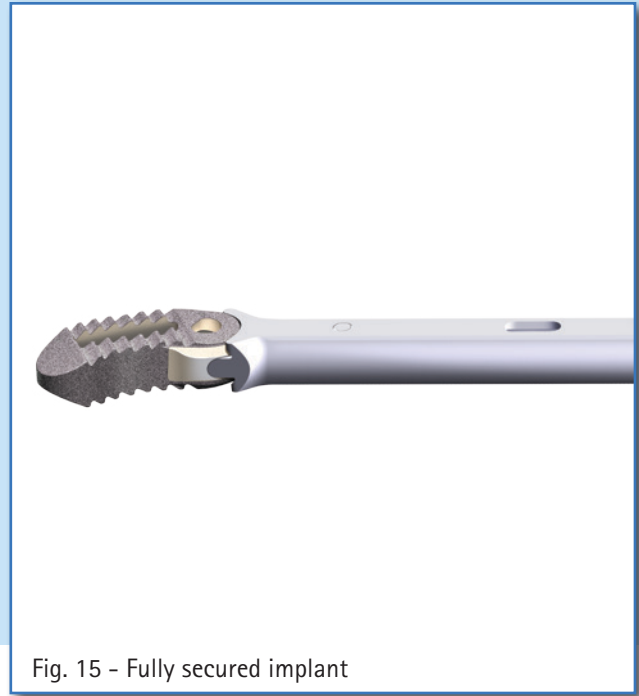

Fig. 15 - Fully secured implant
- d. While holding the trial/implant, turn the inserter knob clockwise until the implant is fully secured against the inserter (Fig. 15).